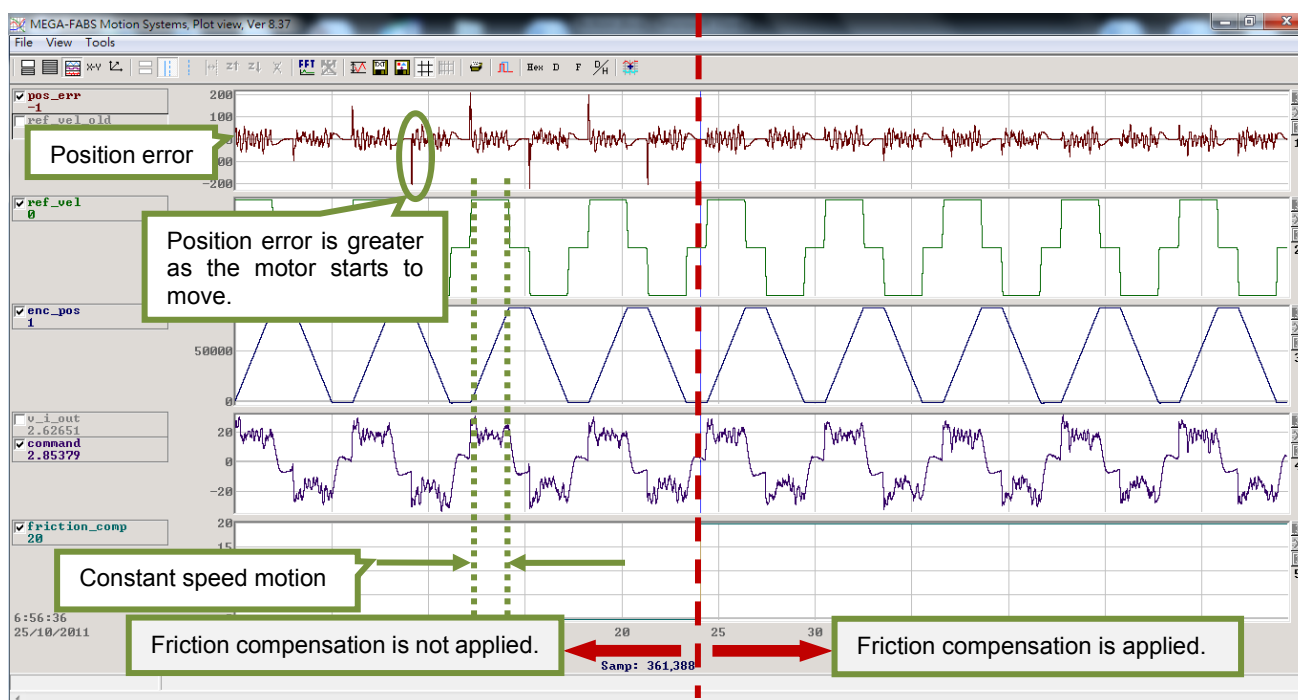

Figure 6.6.7.2 Friction compensation
- Step 7: Observe if the position error when the motor starts to move has decreased, as the right part of figure 6.6.7.2. The position error has decreased after friction compensation is applied.